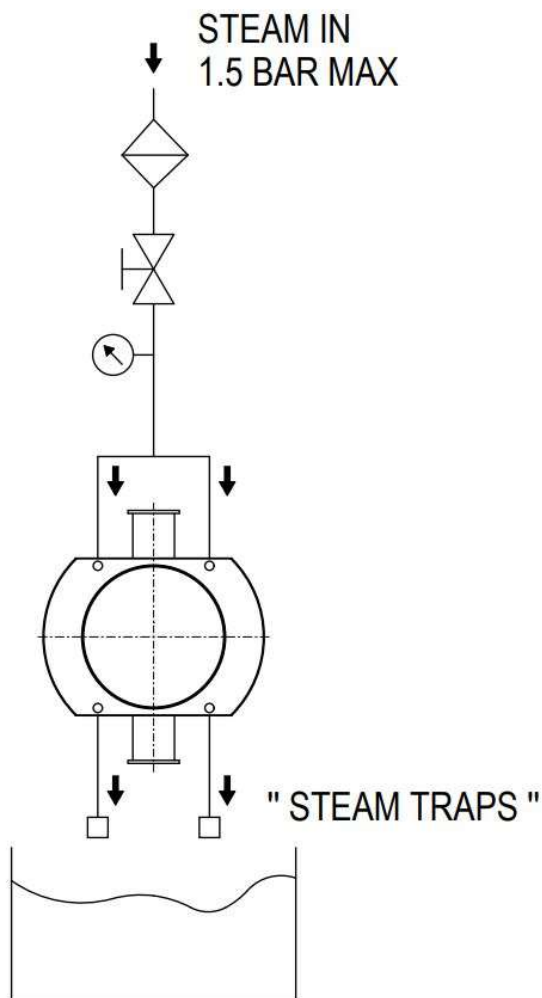

Figure 14 - Steam barrier flush system for double mechanical seal
- Refer to Figure 14 for suggested steam connection.